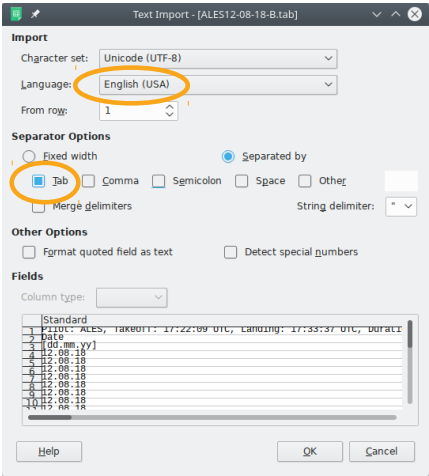

Figure 2.59: An example of Calc Text Import window.
5. Calc detects that a text file is being imported and it opens a window as shown in Figure 2.59. Please make sure that the *Tab* option is selected as the separator and *English (USA)* as the language. This makes sure that decimal values are properly imported.